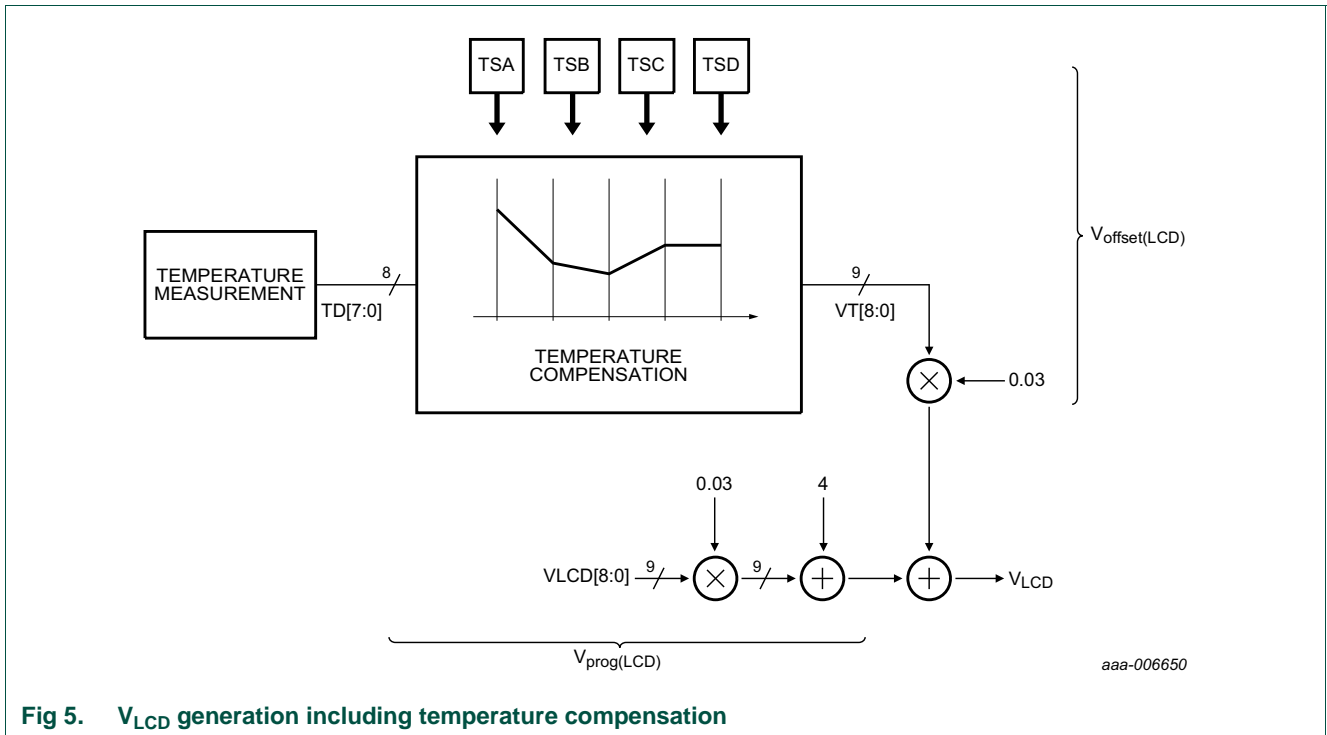

Fig 5. V_{LCD} generation including temperature compensation
- Fig 5. V_{LCD} generation including temperature compensation7